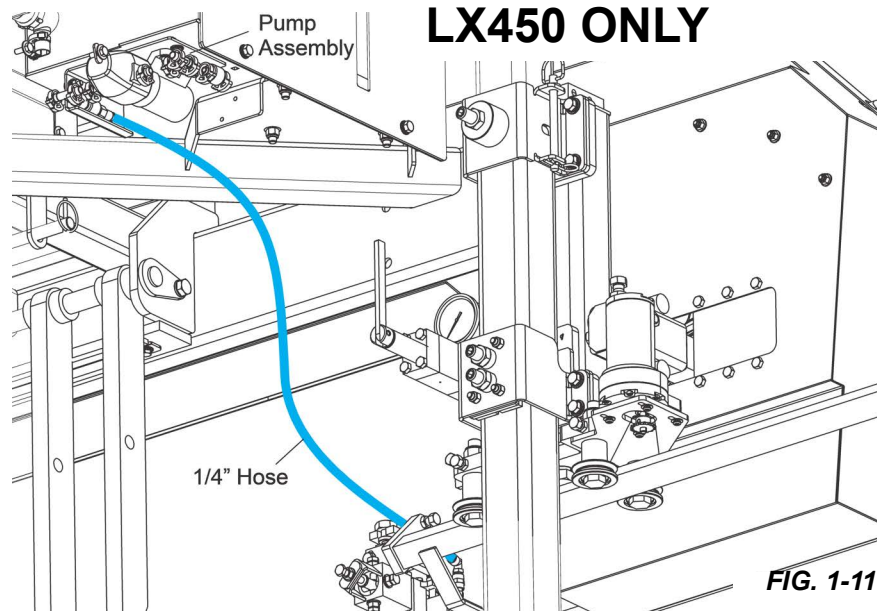

FIG. 1-11
11. Use wire ties to secure the hose near the motor mount and again at the block assembly as shown in FIG. 1-11.
3. Insert one end to the pump valve as shown in FIG. 1-11.